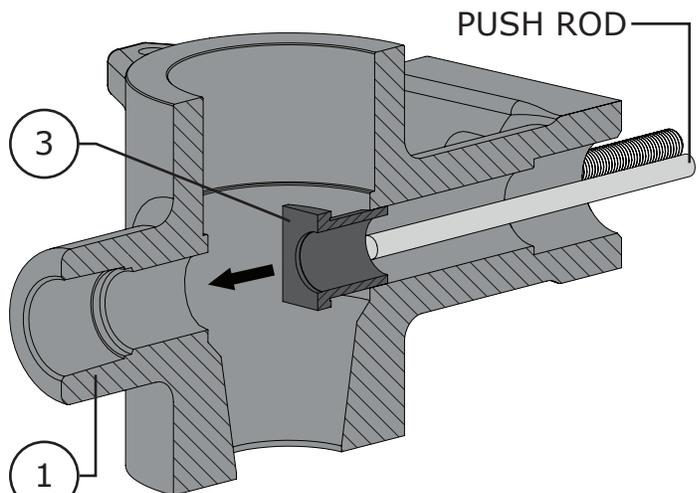

Figure 29A 1 to 2 Inch Inboard Bearing Removal
- 2 Pull or drive the inboard bearing (Key 3) towards the center of the valve body (Key 1) and remove it. Refer to Figure 29A.
- 2 Pull or drive the inboard bearing (Key 3) towards the center of the valve body (Key 1) and remove it. Refer to Figure 29A & 29C.